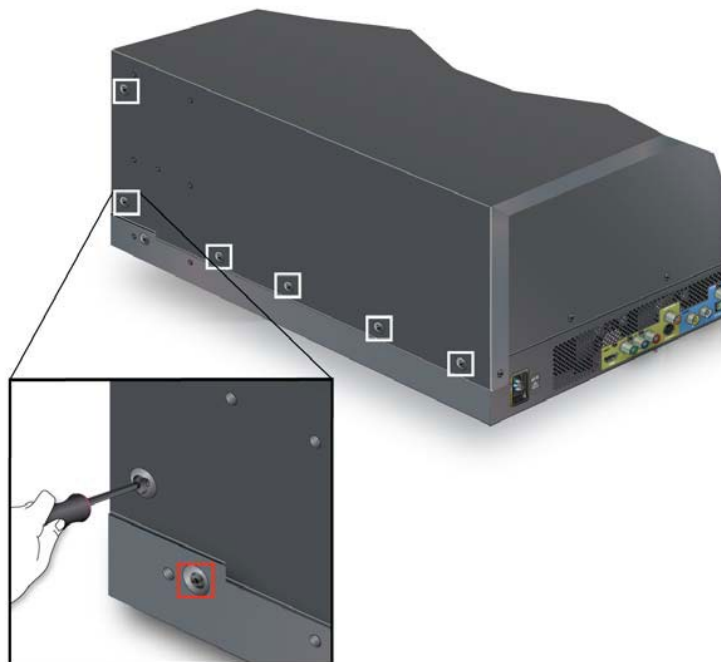

Figure 5
7. Remove 6 screws from the shorter side. **Do not remove the screw marked in red.** See Figure 5.